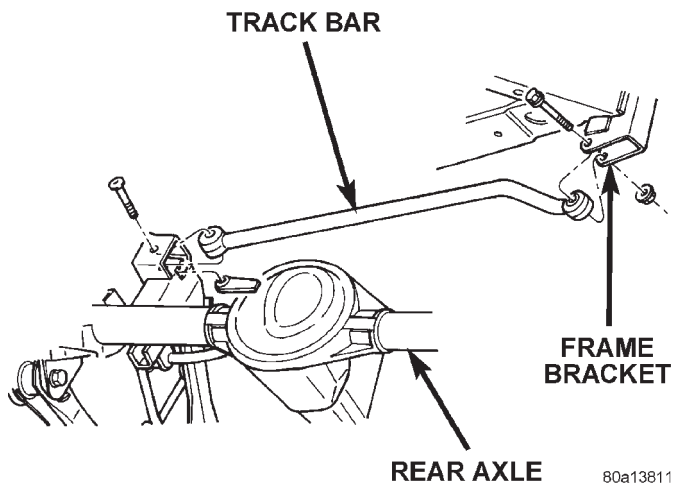

Fig. 7 Rear Track Bar
- (1) Raise and support the vehicle.
- (2) Remove the bolt and nut from the frame rail bracket (Fig. 7).
(3) Remove the bolt from the axle bracket (Fig. 7) and remove the track bar.